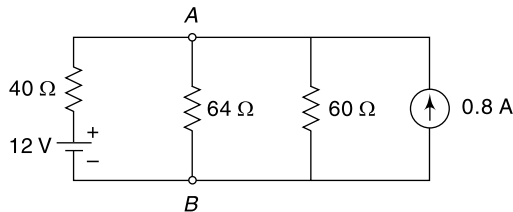

Fig. 4.182
21. Using Norton's theorem find the current through $64\ \Omega$ resistance in the circuit shown in Fig. 4.182. [Ans: 0.3 A from A to B]